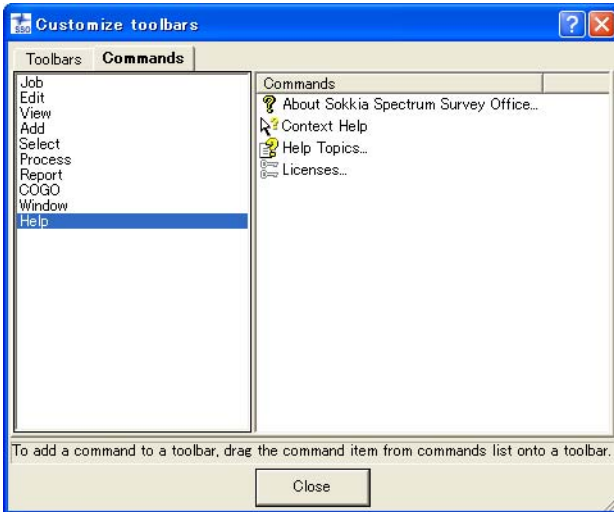

Figure 1-27. Toolbar Commands
3. Click the *Commands* tab. The left panel displays a list of menus and the right panel displays commands available for the selected menu (Figure 1-27).